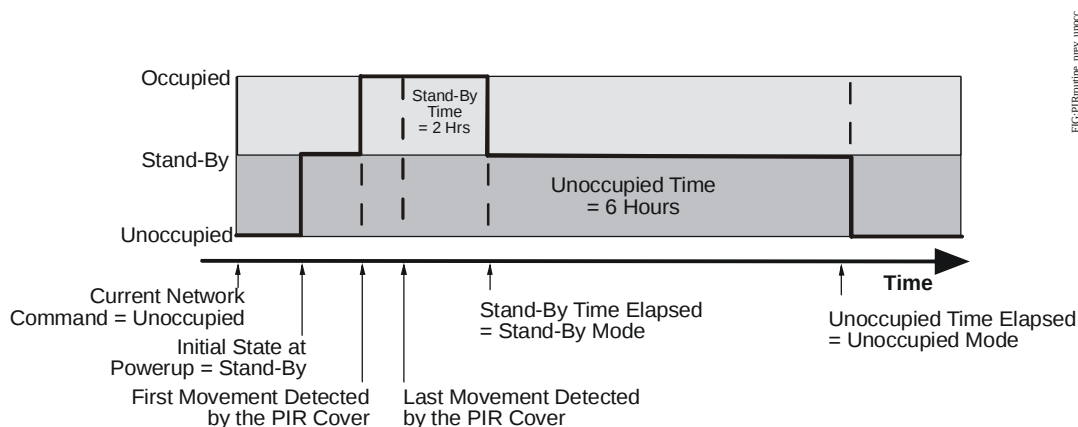

Figure 5: After Receiving Local Occupancy/PIR Network Command from a Previous Unoccupied State
- From a previous network unoccupied command: **Stand-By** (Figure 5)